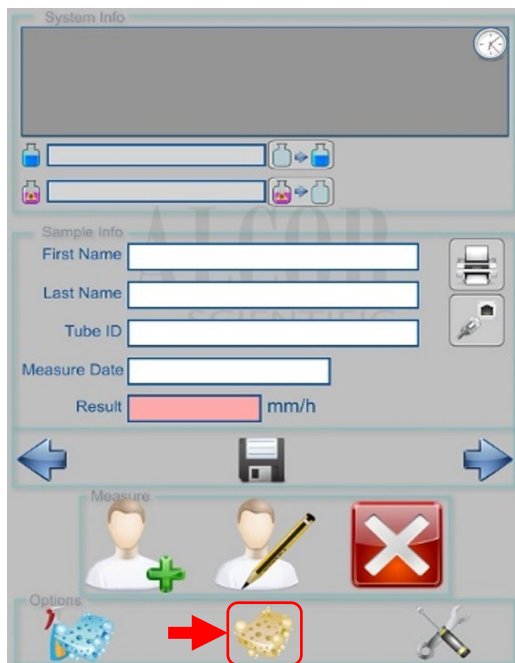

Figure 37
- 9.8. Perform 3 wash cycles (Figure 37) and check for leaks.